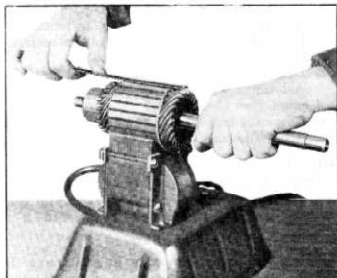

Fig. 44—Armature Test for Short
3. Place the armature on the growler, and with a saw blade over the armature core, rotate the armature and test (fig. 44).